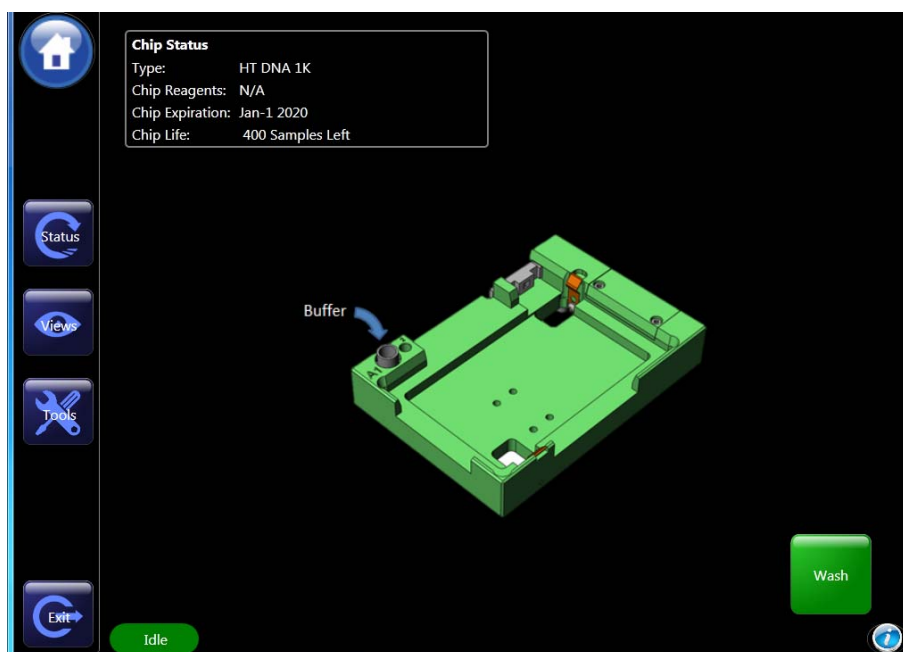

Figure 18. Wash screen.
- Touch the *Wash* button on the *Home* screen. The *Wash* screen opens (Figure 18).